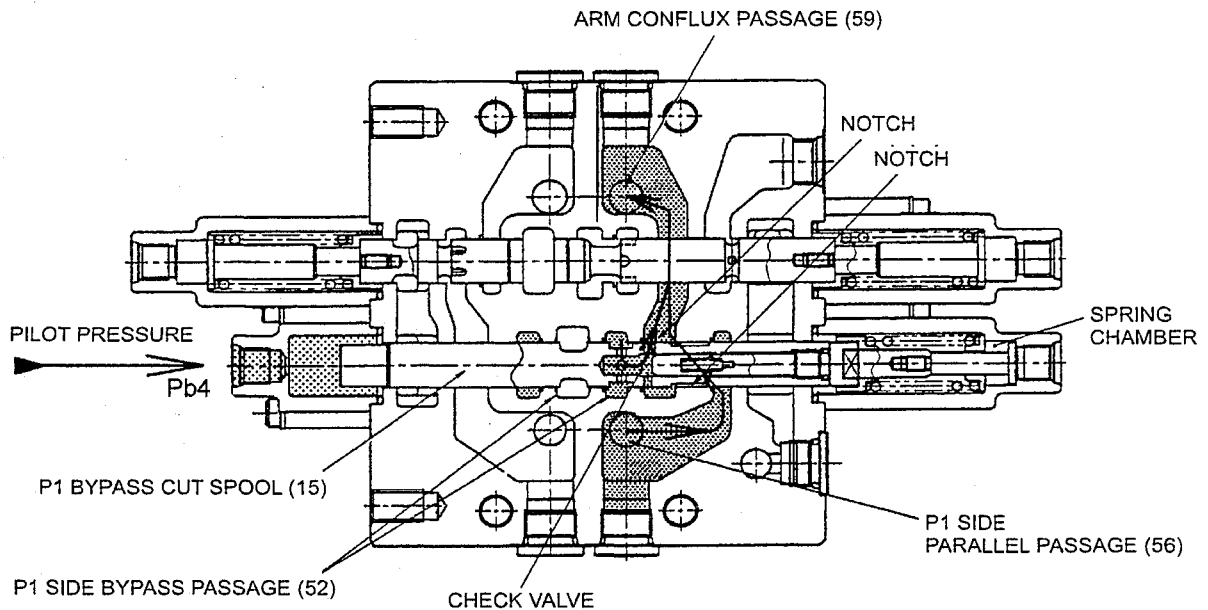

Fig. 24-48 Functions of P1 bypass cut spool
In the meantime, the electromagnetic proportional secondary pilot pressure created by the mechatro control system enters the spring chamber of the P1 bypass cut spool (15). (Fig. 24-48)
The oil which has flowed into the check valve and the P1 parallel path (53) flows into the arm conflux path (59) which is now opened by the shifted P1 bypass cut spool (15). (Fig. 24-48)